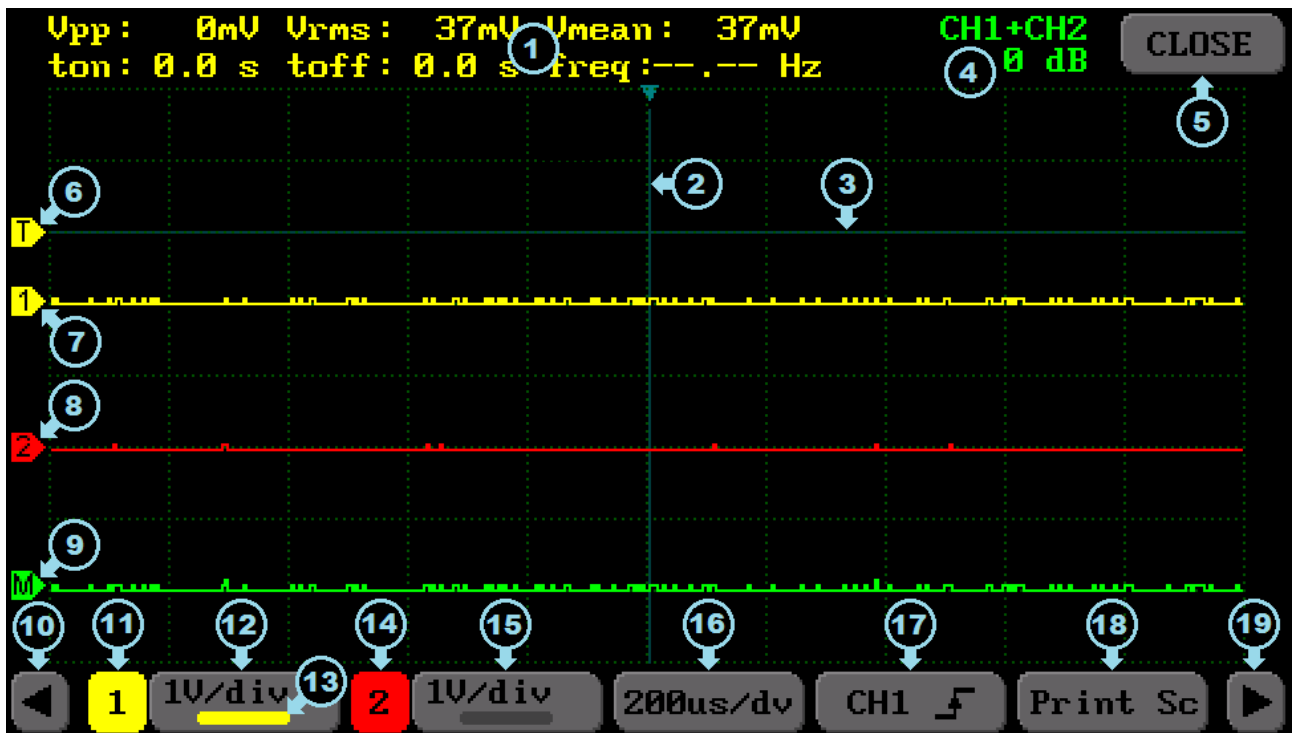
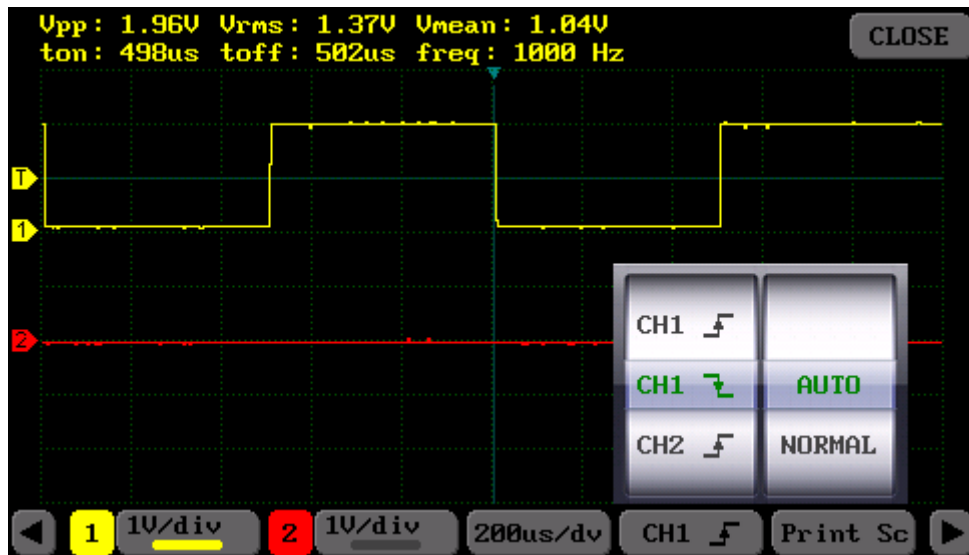
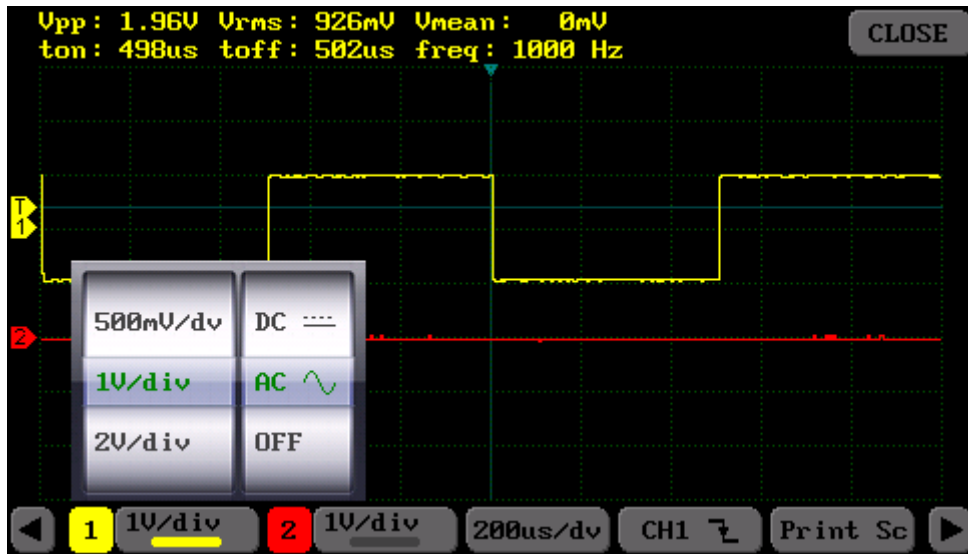

Figure 3a. Oscilloscope mode – Menu1
Figure 4. Trigger Menu
Figure 5. Setting menu for Channel 1
To keep the observed signal constant on the display, the trigger source must be selected for that channel. Otherwise, it will be difficult to observe because the signal will be very moving on the display. To choose the trigger source, trigger menu should be opened by pressing the button shown as 17 in the Figure 3a. Then, trigger channel and trigger edge should be selected from the menu seen in the Figure 4.
On the purpose of observing the signals clearly on the screen, there may be needed to adjust for every single channel. To adjust the Channel-1, the button numbered (12); to adjust the Channel-2, the button numbered (15) should be selected (Figure 3a). The Channel-1's setting menu is seen in the Figure 5. It consists of two parts: In the menu's left side, vertical sensitivity can be arranged a value ranging from
The buttons on the left side of channel setting buttons (11 and 14), provides channel selecting. The required signal via channel tuning can be resituated by sweeping upright on the screen. The selected channel's info is seen in (13) (the selection in the Figure 3a is for Channel-1).
The horizontal sensitivity can be arranged ranging from 10 ns/div to 5s/div value. As it seen in the Figure 3a, this tuning can be performed from the menu numbered (16).
To perform measurement on the observed signal, 'Cursor' menu is used. 'Cursor' menu could be activated by selecting the button which is seen as (22) in the Figure 3b (Menu 2). To switch to Menu 2, the buttons providing switching among the menus are used (in the Figure 3a, (10) and (19) buttons).